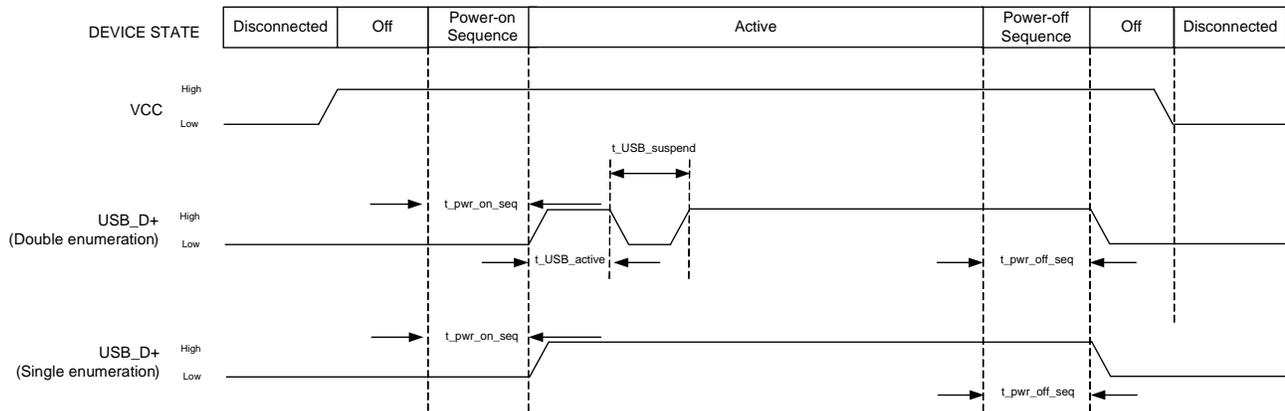

Figure 5-1: Signal Timing (USB Enumeration)
Figure 5-1 describes the timing sequence for powering the module on and off.
- Double enumeration—As shown in Figure 5-1 on page 32: